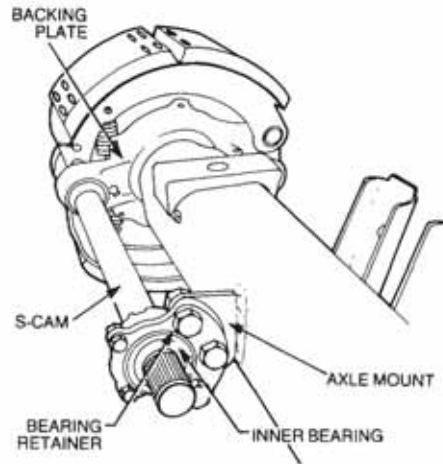

Figure 11 S-cam Mounting
37. **Removal.** Remove the brake S-cam as follows (Figure 11):
38. **Installation.** Install the S-cam as follows (Figure 11):